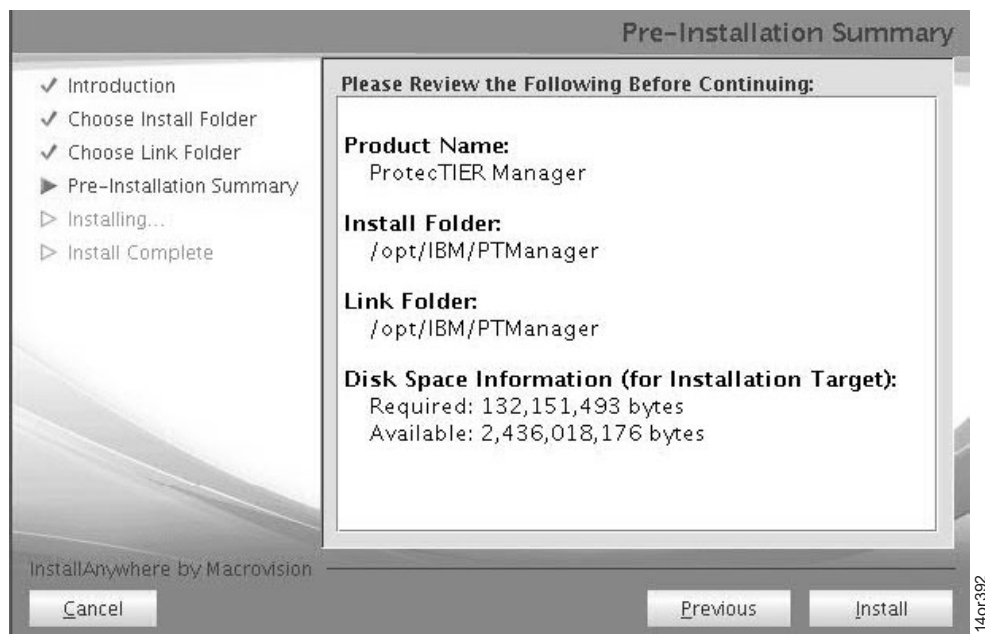

Figure 2-90. Pre-Installation Summary Screen
5. You see Figure 2-90. This screen shows you where the ProtecTIER GUI Manager software will be installed.